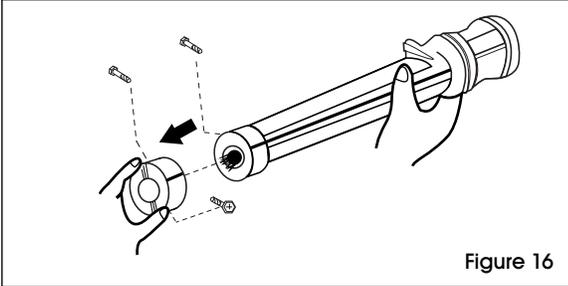

Figure 16
(See Figure 16)
3. Remove pump by sliding it away from the orifice, then lift it out. (See Figure 16)